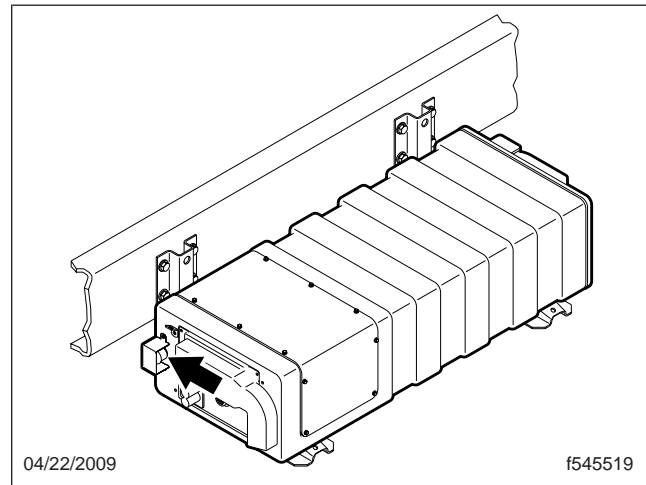

Fig. 16.7, Service Switch
- Push in the service switch on the PEC and shut down the engine. See **Fig. 16.7**.